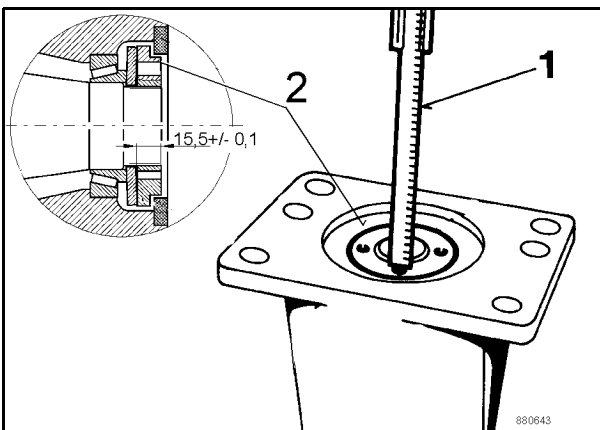

Fig. 7
11. measure the depth with a vernier caliper 1 (Fig. 7) through the bore in the tensioning nut (2).